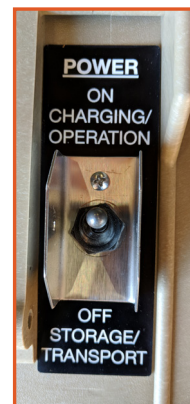

Figure 8. Li Expander Pak power switch
1. Remove the pin from the switch protector and move the power switch to the “ON CHARGING/OPERATION” position (Figure 8).